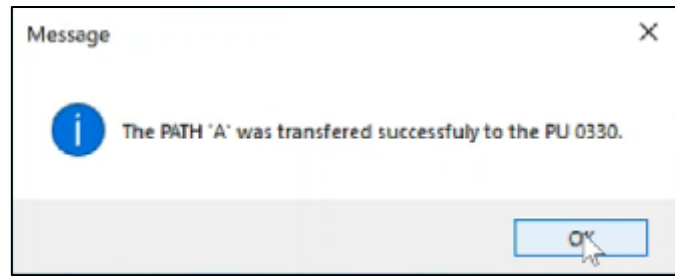

Fig. 283 - Message of successful exportation
6. The exportation is complete (Fig. 283).